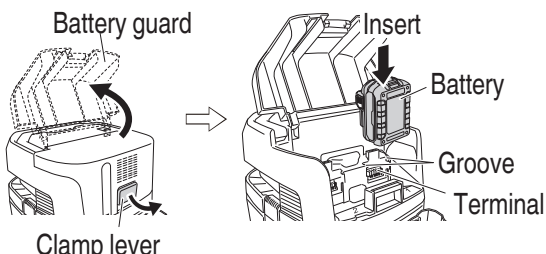

Fig. 6
As you pull on the clamp lever, open the battery guard. Next, match the battery with the unit's groove and firmly press the battery in until you hear a click. (see **Fig. 6**)
4. Inserting the battery (see Fig. 6 on page 41)